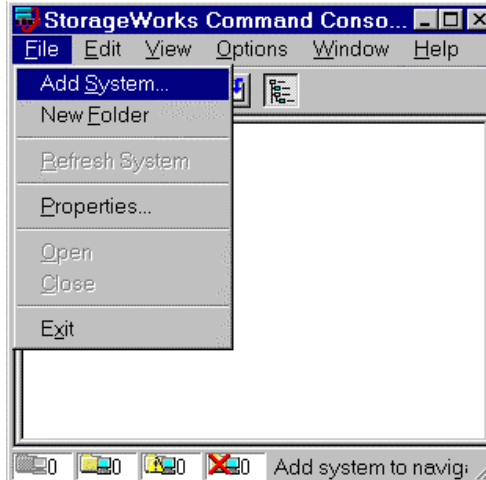

Figure 3-5. Selecting the *Add System* option from the SWCC navigation window
2. At the Command Console Navigation Window, use the *File* pull-down menu to select the *Add System* option, as shown in Figure 3-5.